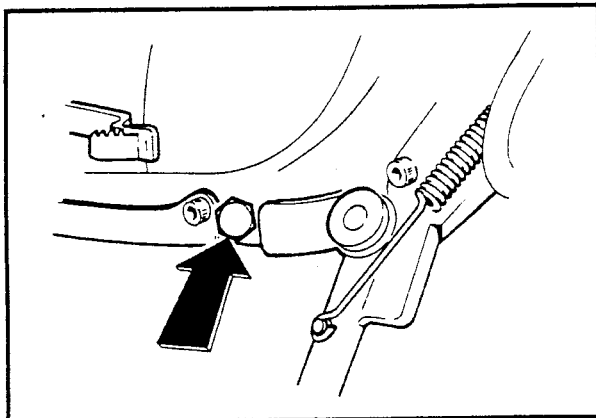

Figure 2-127. Engine Oil Plug
2. See Figure 2-127. Drain the engine oil by removing the engine oil plug.